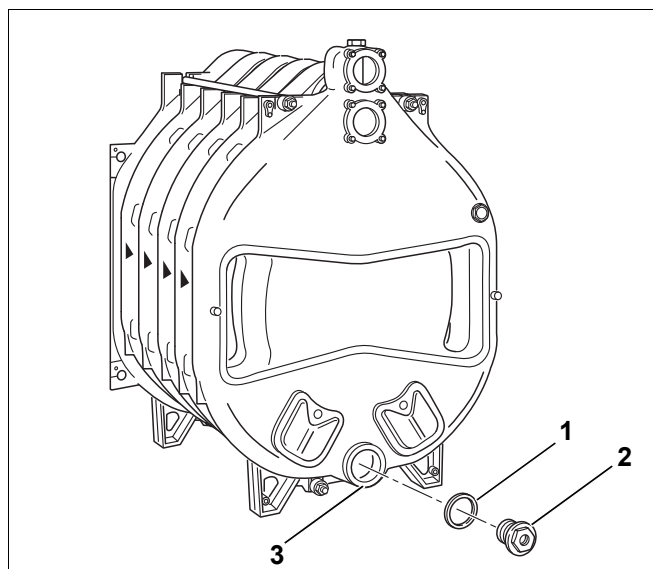

Fig. 21 Flange installation
- Close the lower boiler hub at the front and rear (→ Fig. 21, [3]). To do this, set the corresponding gasket (→ Fig. 21, [1]) onto the respective boiler hub and seal the corresponding drain plug into the appropriate port.
Fit the plug with internal  $\frac{3}{4}$ " thread for the drain cock (→ Fig. 21, [2]) to the rear of the boiler.